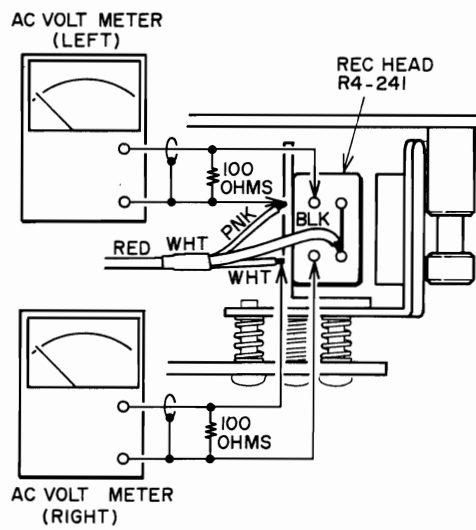

Fig. 9-4 Rec Peaking Adjustment (Step 3)
6. Stop Recording bias oscillator while making Rec Peaking adjustment (Refer to Fig. 9-4).